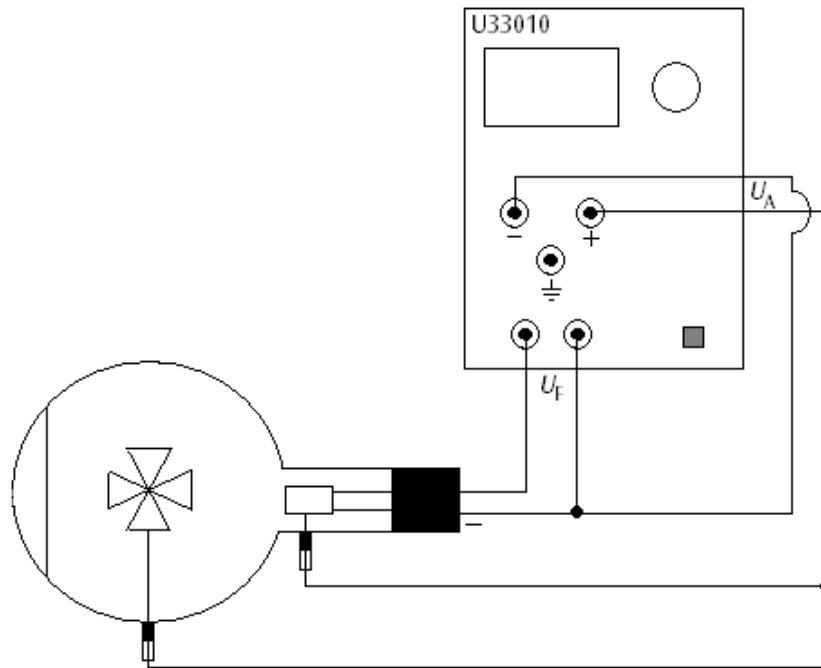

Fig. 1 Linear propagation of cathode rays
- Set up the circuit as in Fig 1.
- Set up the circuit as in Fig 1. Connect the minus-pole of the anode voltage to the 4-mm socket marked with a minus.